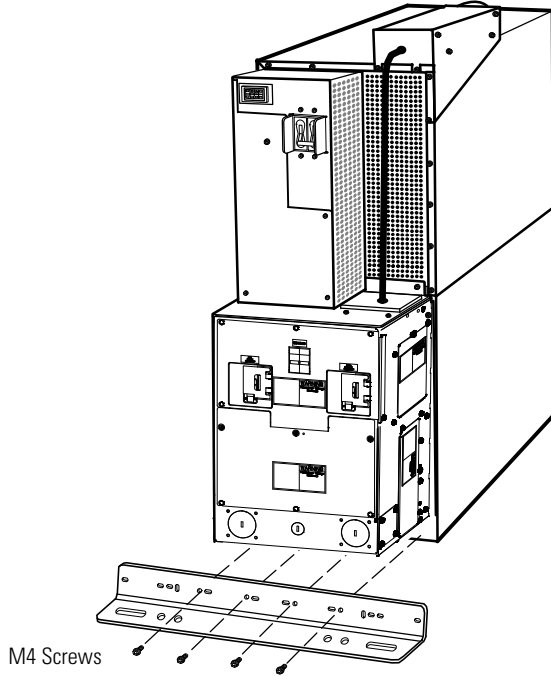

Figure 14. Stabilizing Bracket Installation
NOTE The location for the stabilizing bracket shown in Figure 14 is the only acceptable location on the equipment frame for anchorage.
2. Attach the stabilizing bracket to the bottom of the UPS rear panel using the retained hardware from the shipping pallet (see Figure 14).